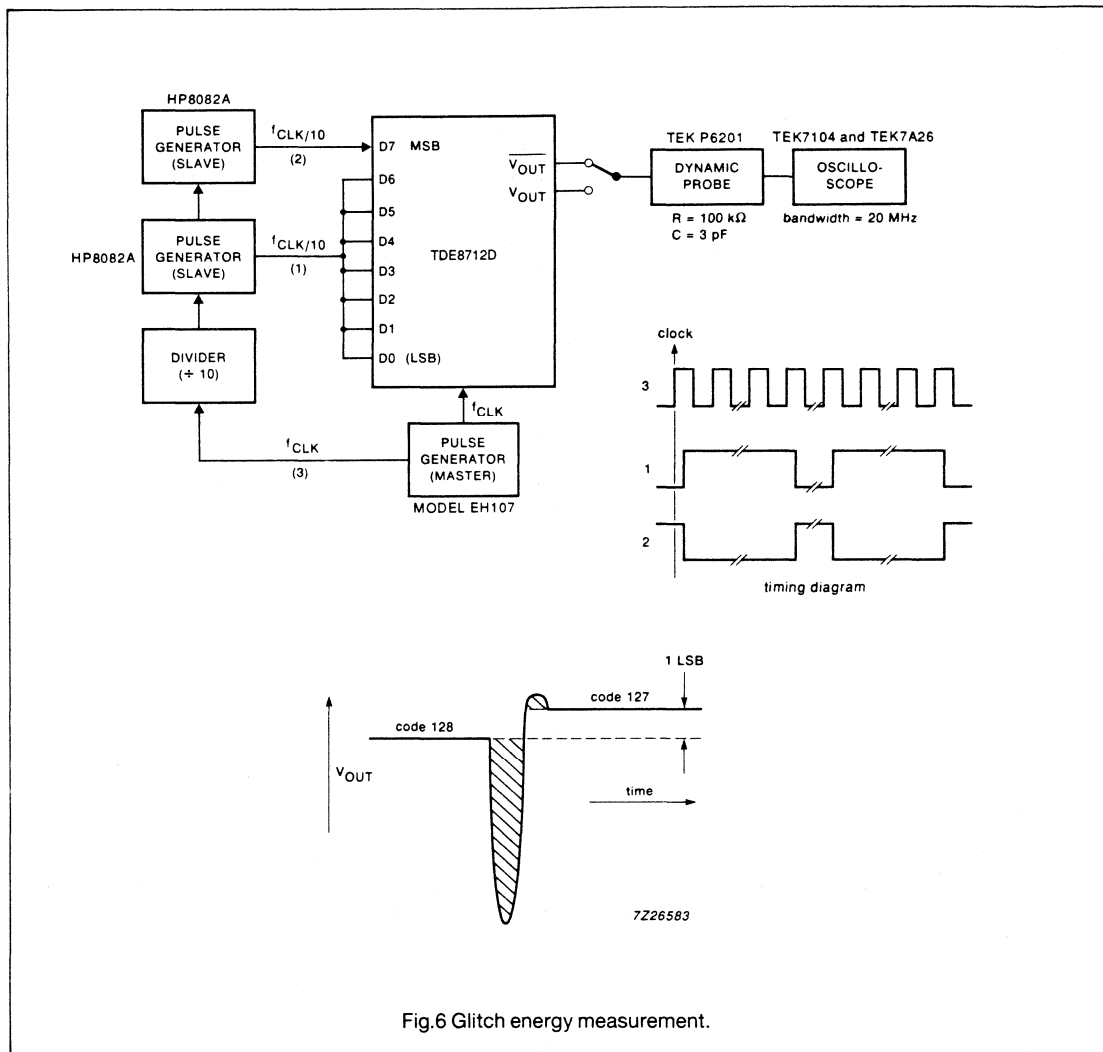

Fig.6 Glitch energy measurement.
Output transients (glitches; $f_{CLK} = 50 \text{ MHz}$; note 6; see Fig.6)
6. The definition of glitch energy and the measurement set-up are shown in Fig.6. The glitch energy is measured at the input transition between code 127 to 128 and on the falling-edge of the clock.
Note to Fig.6